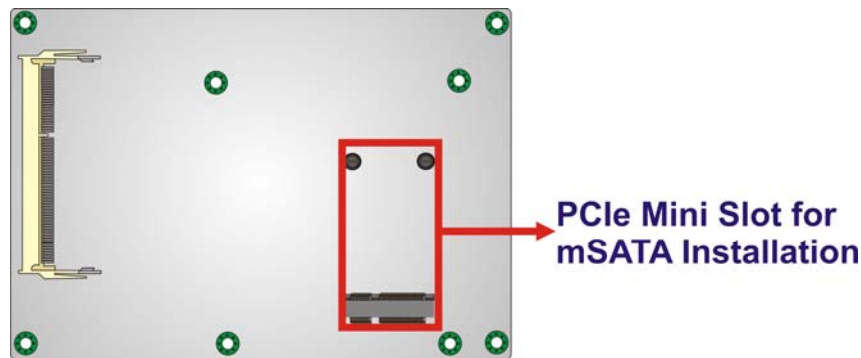

Figure 3-10: PCIe Mini Slot Location
Step 5: Locate the PCIe Mini slot on the solder side of the motherboard (Figure 3-10).